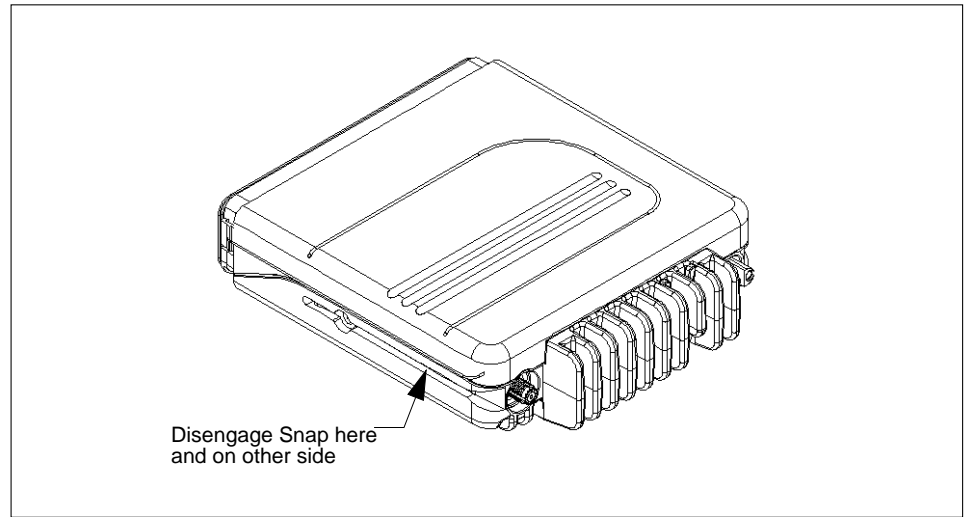

Figure 5-3 Removing the Top Cover - Mid Power Models
1. Insert a wide flat-blade screwdriver or like instrument in the recess area on the side of the radio near the RF and DC connector end (see Figure 5-3).